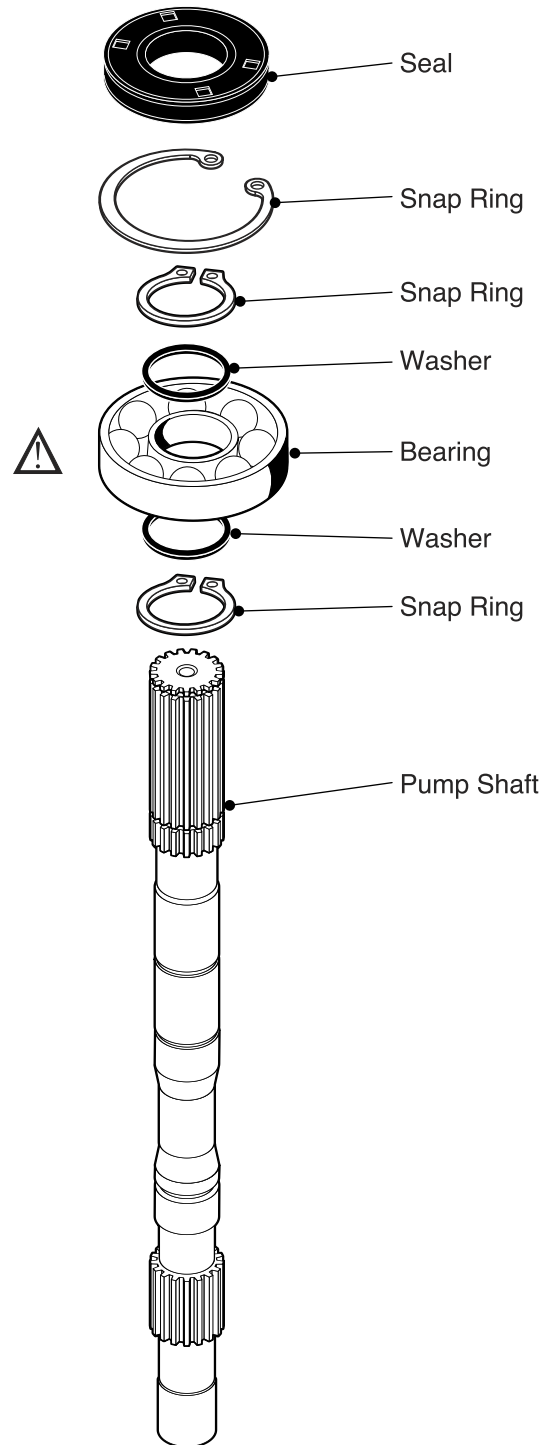

Fig. 43, Pump Shaft
2. Remove the large internal Snap Ring and lift the Pump Shaft from the Upper Case. (Fig. 43)